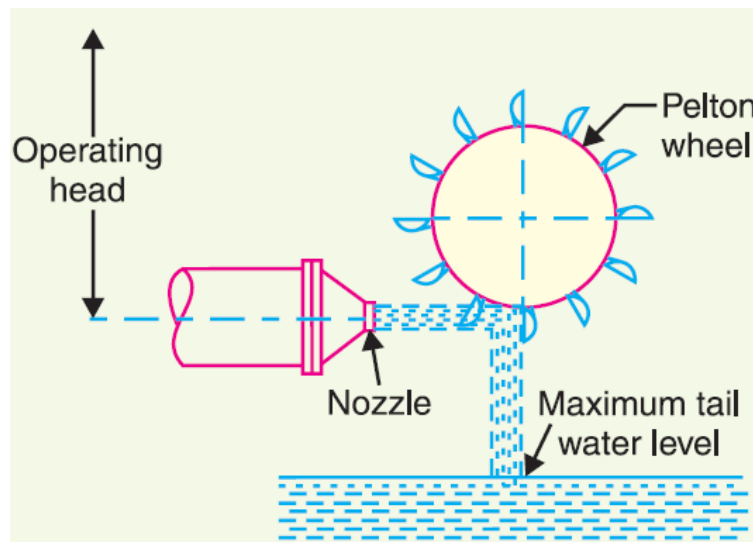

Fig 1.5 Pelton Wheel
- b. The example of this type of turbine is the Pelton wheel shown in fig.1.5.